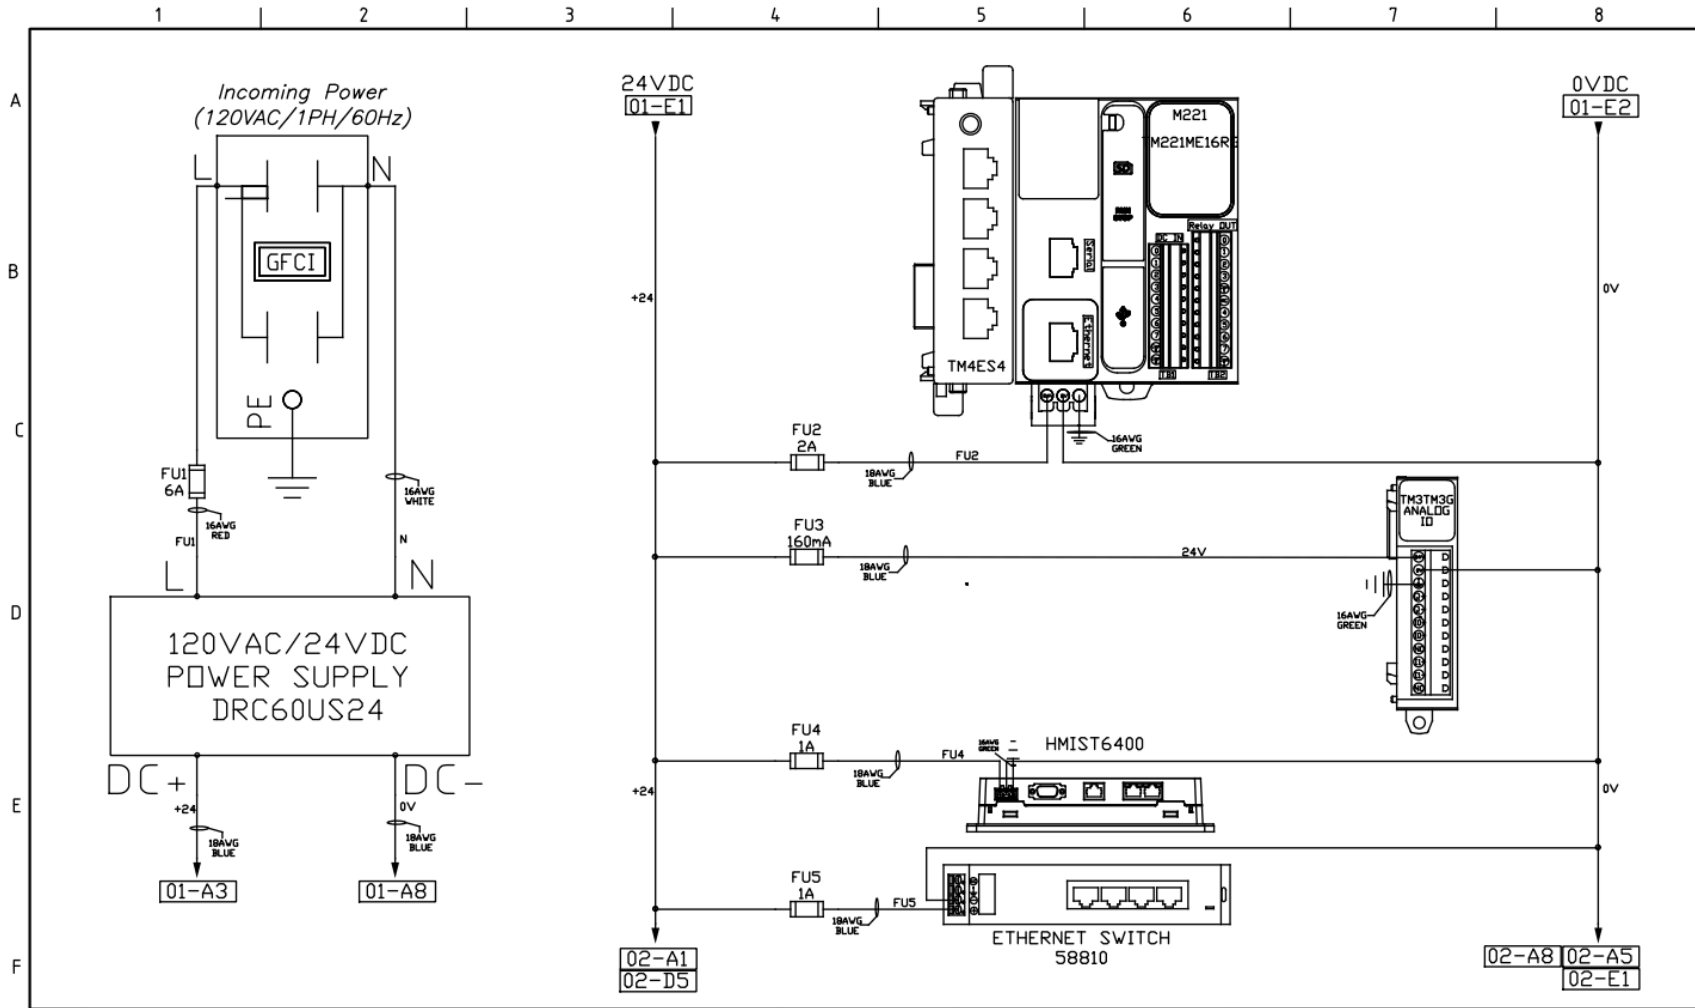
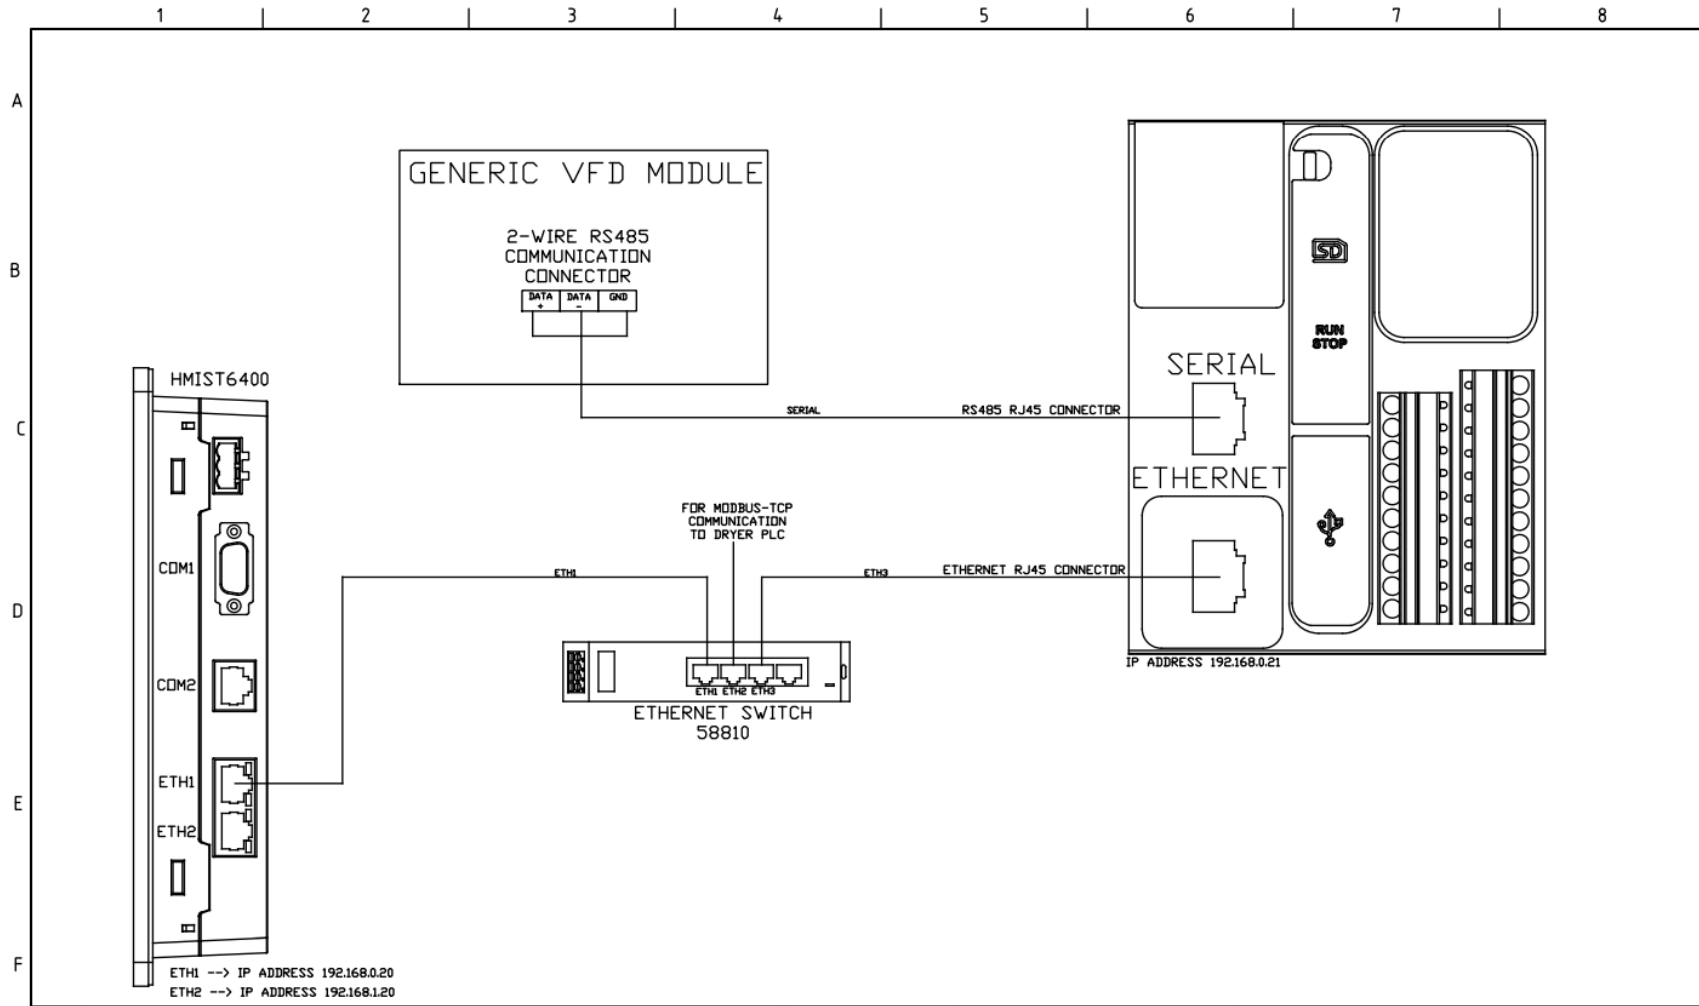

Figure 5-6: Smart-Flo system power distribution electrical schematic
Figure 5-8: Smart-Flo system network distribution electrical schematic
3. Review the electrical schematic for the system, as seen in **Figure 5-6** to **Figure 5-8**, and familiarize yourself with the components and their locations in your system. Reference **Table 5-1** for the terminal naming conventions of common VFD models.